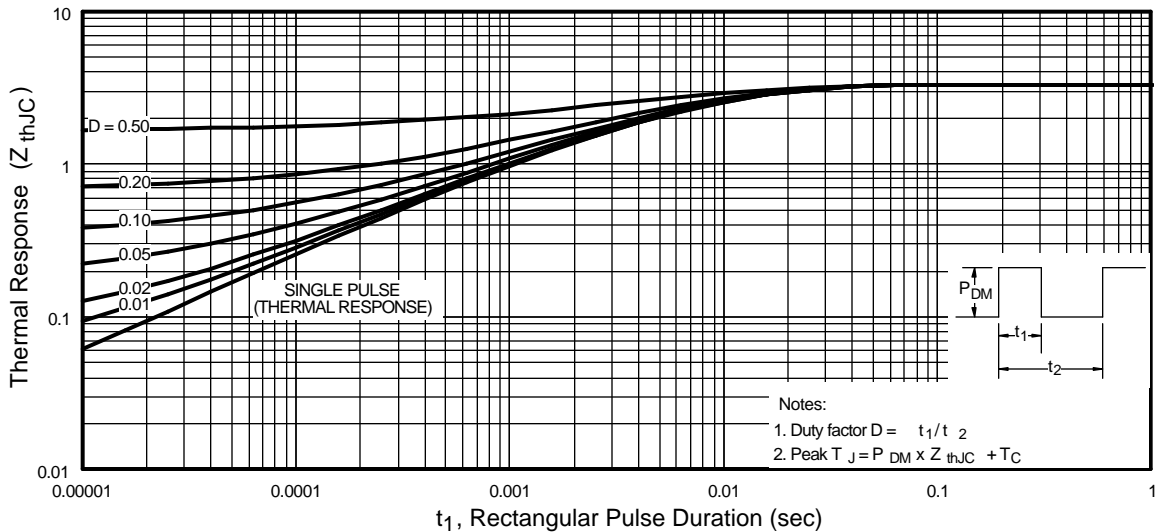

Fig 11. Maximum Effective Transient Thermal Impedance, Junction-to-Case
- ① Repetitive rating; pulse width limited by max. junction temperature. (See fig. 11)
- ② Starting $T_J = 25^\circ\text{C}, L = 1.0\text{mH}$